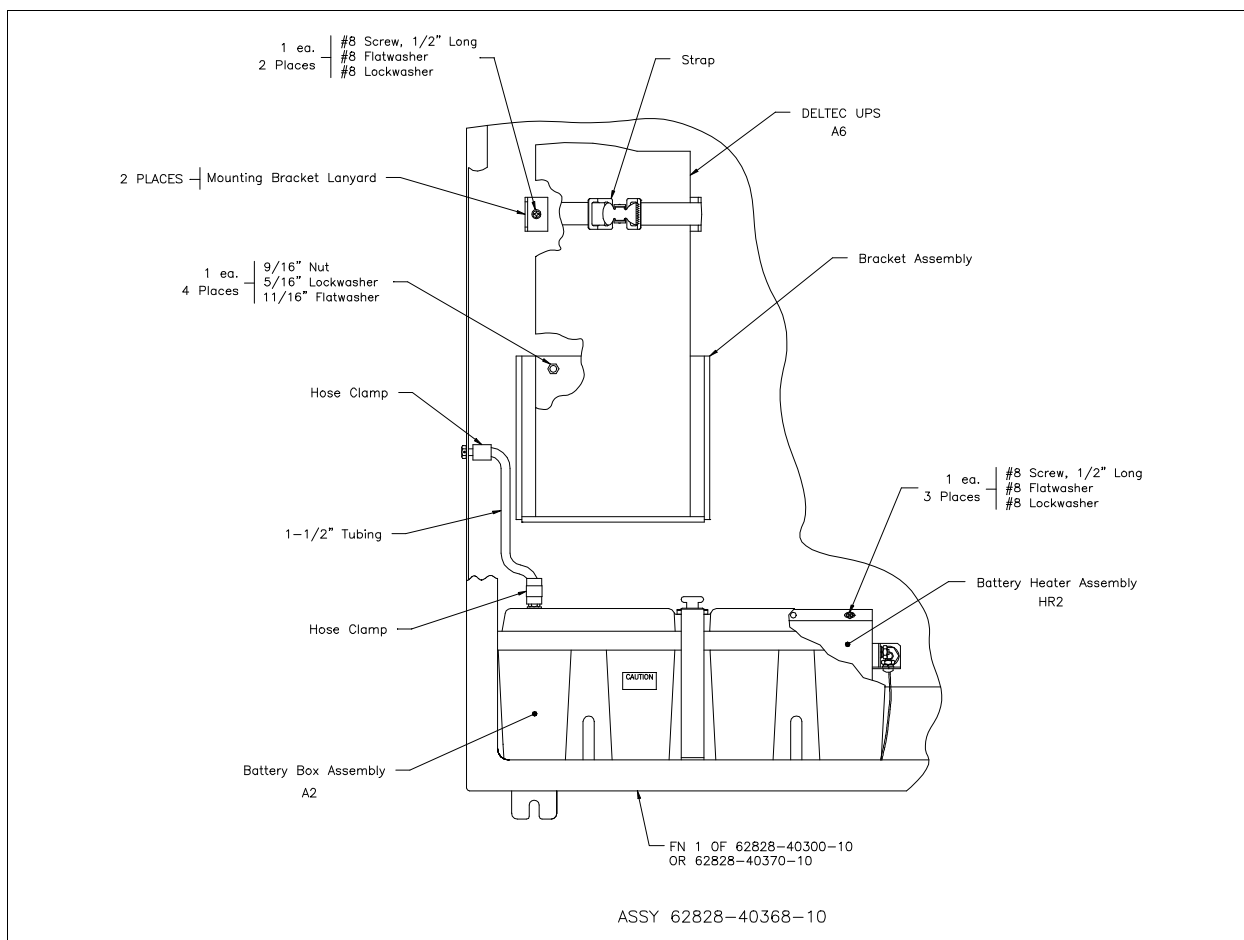

Figure 11 UPS Kit Mounting Location
34. Install the UPS kit into the AUX box. Refer to figure 11.